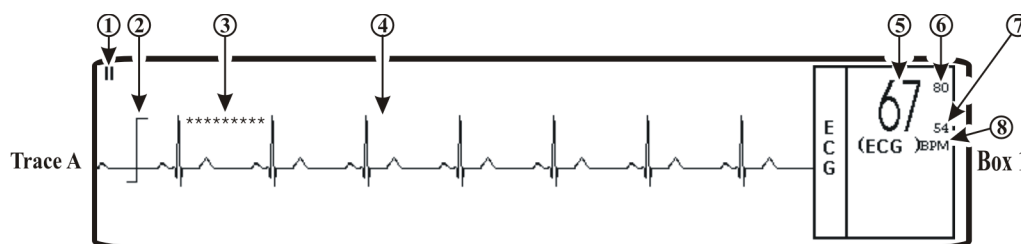

Figure 4-1. ECG Display
4.2.1 Associated Waveforms and Displays. (See **Figure 4-1**) ECG information is displayed as a waveform in the Trace A location and as numeric data in the Box 1 location. The following is a description of the items contained within the ECG Display.
- TRACE A LEAD.** Selecting this menu option allows the selection of the ECG 1 lead (Figure 4-1). The options are I, II (default), III, AVL, AVR, AVF, CAL and OFF. If operating a dual monitor system, with a 3155A and 3155MVS communicating with the 3150(M), the adjustments made here are interactive between the two 3155 monitors to ensure that the monitored parameters remain consistent between all components of the MRI monitoring system.